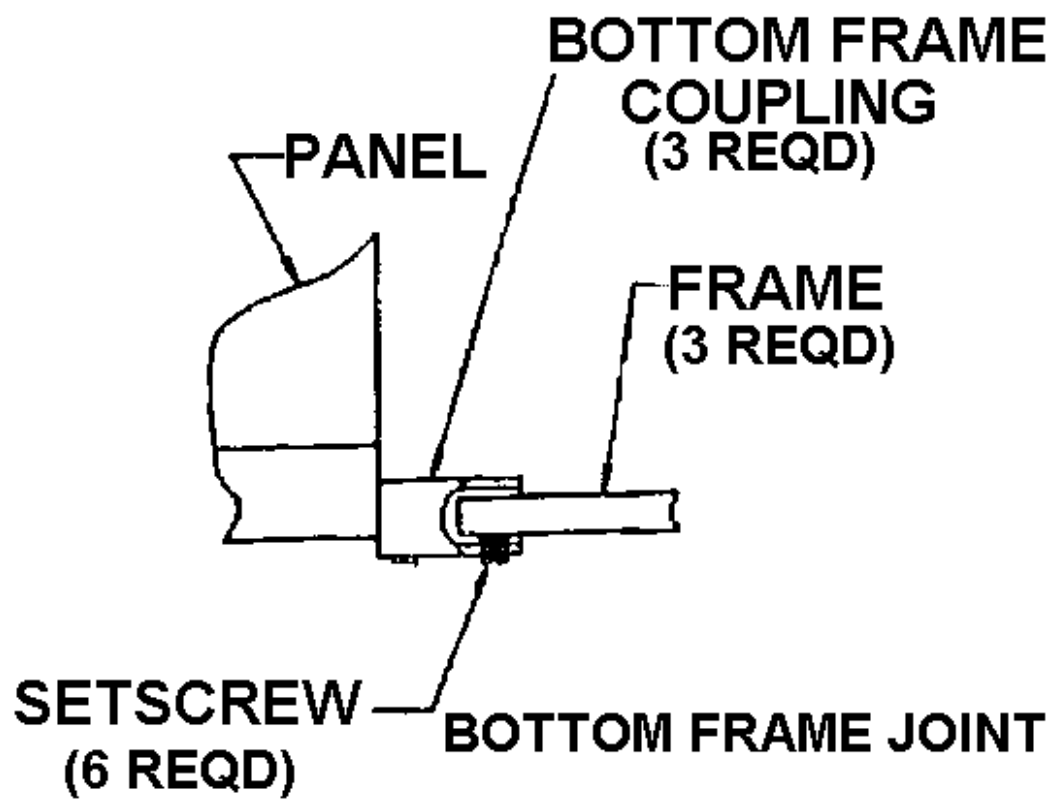

FIGURE 1
2. Reference attached drawing figure 1, and replace the removed assembly with a wind skirt attachment device P/N 2125 - 00201.